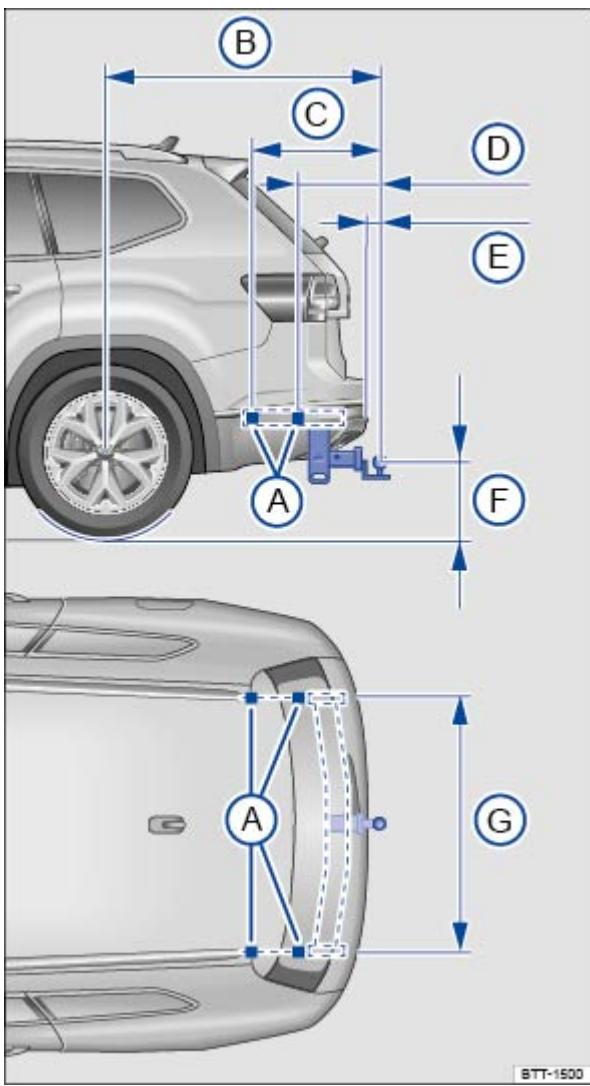

Fig. 163 Dimensions and attachment points for retrofitting a trailer hitch.
When retrofitting a trailer hitch, the specified distance dimensions must be strictly adhered to \Rightarrow Fig. 163. Under no circumstances may the distance from the center of the hitch ball to the surface of the road (F) be less than the specified minimum. This minimum height must be present even when the vehicle is fully loaded and subject to the maximum tongue weight.